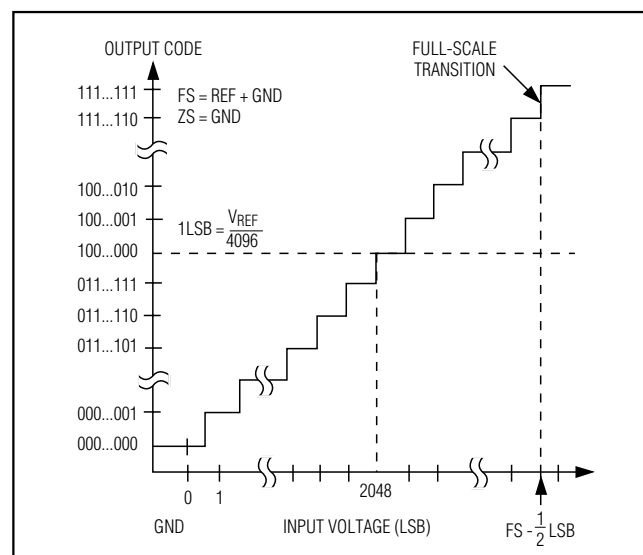
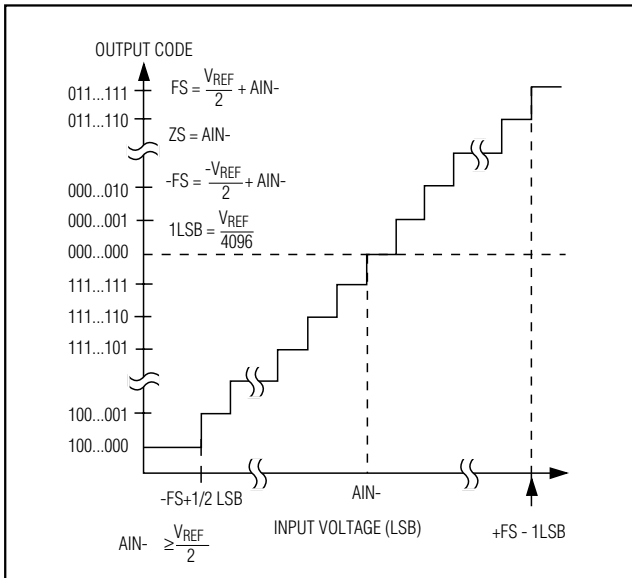

Figure 12. Unipolar Transfer Function
Figure 13. Bipolar Transfer Function
Output data coding for the MAX1236-MAX1239 is binary in unipolar mode and two's complement in bipolar mode with 1LSB = (V_{REF}/2N) where "N" is the number of bits (12). Code transitions occur halfway between successive-integer LSB values. Figure 12 and Figure 13 show the input/output (I/O) transfer functions for unipolar and bipolar operations, respectively.